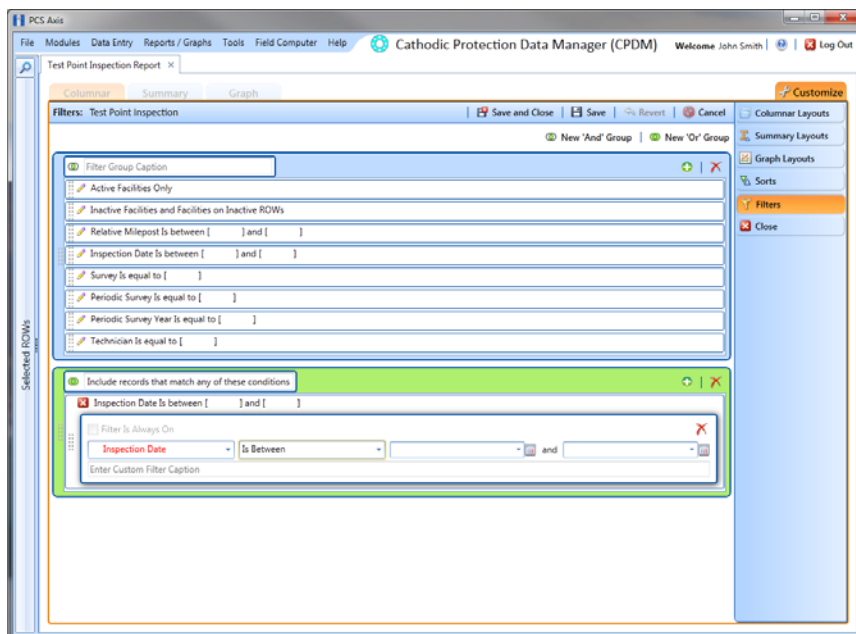

Figure 14-44. New 'Or' Filter Group
- 4 Click  **New 'Or' Group** to open a filter properties group box (Figure 14-44).
- 7 When adding a date filter, such as *Inspection Date Is Between*, set a date range using a calendar or dynamic dates in the following manner (Figure 14-44, page 584):